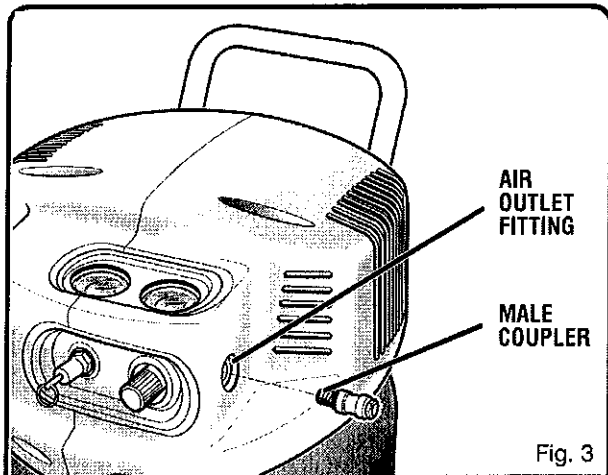

Fig. 3
- Apply 1 layer of thread sealing tape to the threaded end of the male coupler and insert into the air outlet port on the compressor (Fig. 3).